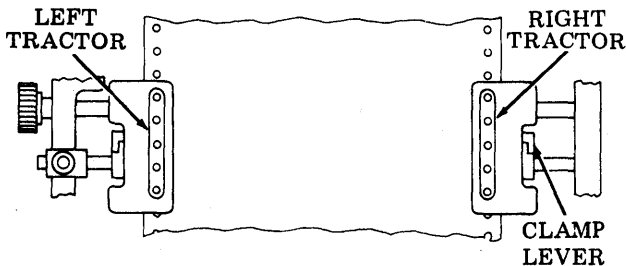

Fig. 56—Right Tractor Positioning
- (1) Lift clamp on the right tractor assembly.
- (2) Position the right tractor to align tractor pins in paper feed holes.
- (3) Close right tractor lid and close clamp lever (Fig. 56).